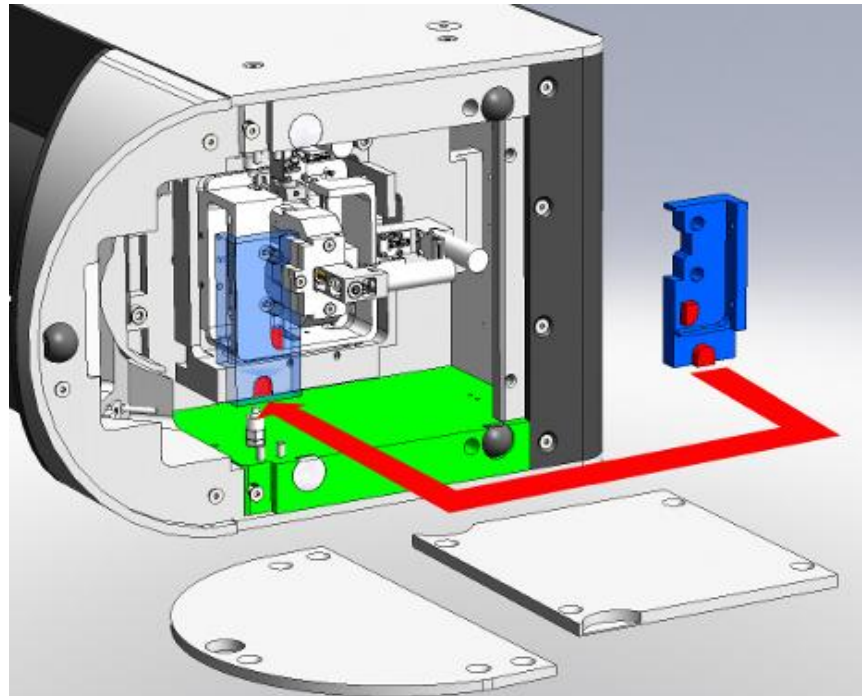

Fig. 2-4. Installing bracket
2. Place the bracket of the scanner carriage so that outdents of the bracket marked in red fit cuts in the carriage ((see Fig. 2-4). For better match, move the frame of the carriage.